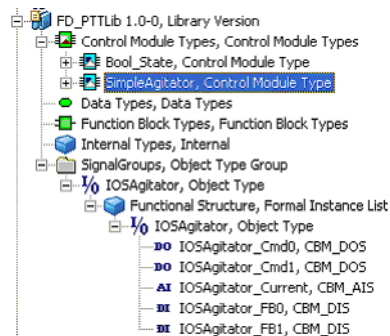

Figure 323. Object Type IOSAgitator
6. Add for each structured data type component the appropriate signal object below the Formal Instance List of object type IOSAgitator (see Figure 323).